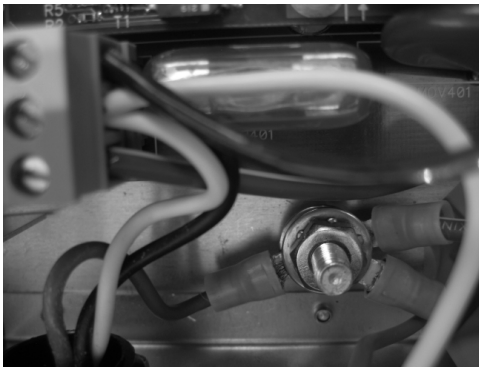

Figure 6 Intrinsic Safety Grounding Stud
- c. Be sure to connect input ground to the Intrinsic Safety Grounding Stud on the baseplate of the Figure 918AC inside the enclosure (see Figure 6).